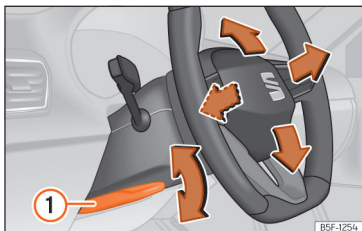

Fig. 92 Lever in the lower left side of the steering column.
- Pull lever »» Fig. 92 ① down, move the steering wheel to the desired position and lift the lever back up until it locks.
- After adjusting the steering column, push lever »» Fig. 92 ① firmly upwards so that the steering wheel does not accidentally change position while driving.